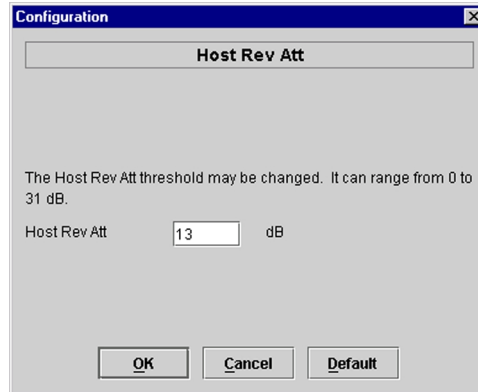

Figure 4-13. Host Rev Att Pop-Up Screen
- Right-click on the **Host Rev Att** section of the display (see Figure 4-12). The **Host Rev Att** pop-up screen will open as shown in Figure 4-13.